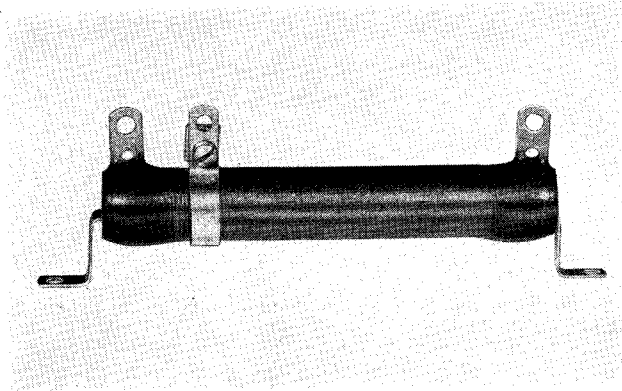

FIG. 5. Resistor S# 1590 776
Increasing the XL resistance (Fig. 5) decreases the braking torque applied as the motor is stopped after an operation in the "Lower" direction, hence
- Resistor . . . . . S# 1590 776 (Fig. 5)